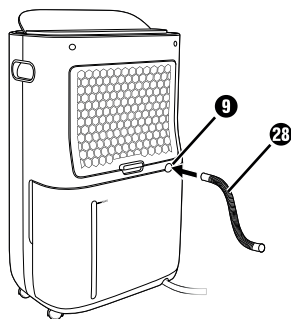

Fig. 3
- ◆ Connect either the supplied hose **28** or the EU garden hose adapter **29** to the outlet opening **9** (see figures 3 + 4).